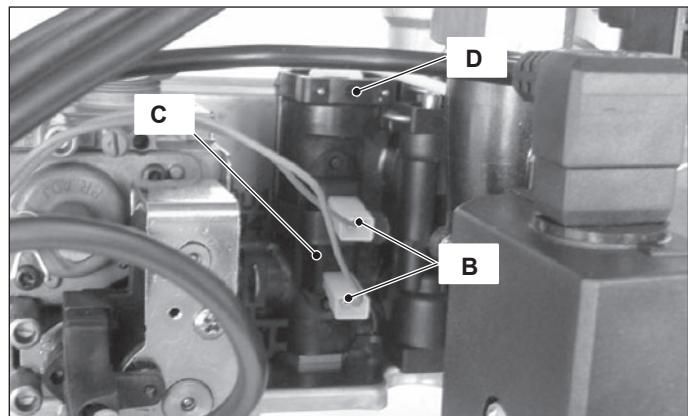
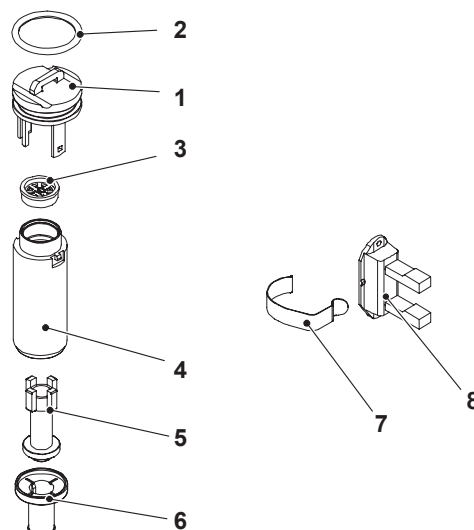

Figure 14.2
Figure 14.3
When the flow rate through the d.h.w. circuit reaches about 2,5 litres/min', the float 5 (Figure 14.3) is dragged upwards and the magnet in it, getting closer to the sensor 8, closes the electric contact that switches the boiler d.h.w. operation ON.
14.2 Nomenclature and location of parts - (Figure 14.3)
- 2 Disconnect the connectors B and remove the sensor holder spring 7 (Figure 14.2 - Figure 14.3).
- 3 Remove the fork D and pull up the flow switch plug 1 (Figure 14.2 - Figure 14.3) with the help of a screwdriver.
- 4 To remove the filter from the flow switch group separate the filter 6 from the body 4 (Figure 14.3) by levering it.
- 3 Insert the flow limiter 3 as shown in Figure 14.3.